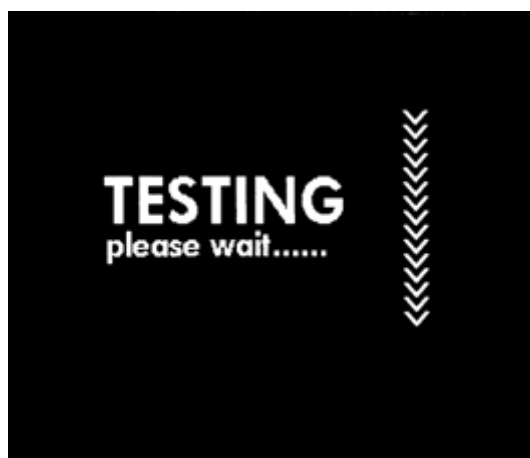

Figure 5-2 Waiting message
6. In the main screen, touch <STAR>. The system starts a test and displays a waiting message on the screen as Figure 5-2.
Touch <STAR>. The system starts a test and displays a waiting message on the screen as Figure 5-2.